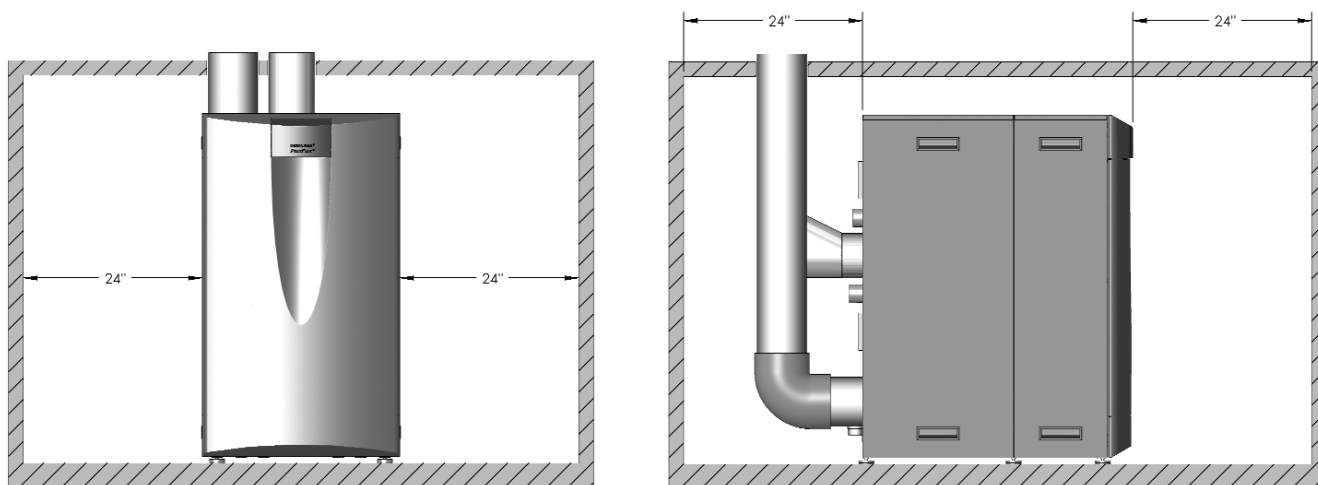

Figure 1.1: Minimum Accessibility Clearances – PF-850, PF-1000
2. Figure 1.1 shows the minimum recommended clearances to allow reasonable access to the boiler for inspection and maintenance. However, local codes or special conditions may require greater clearances.